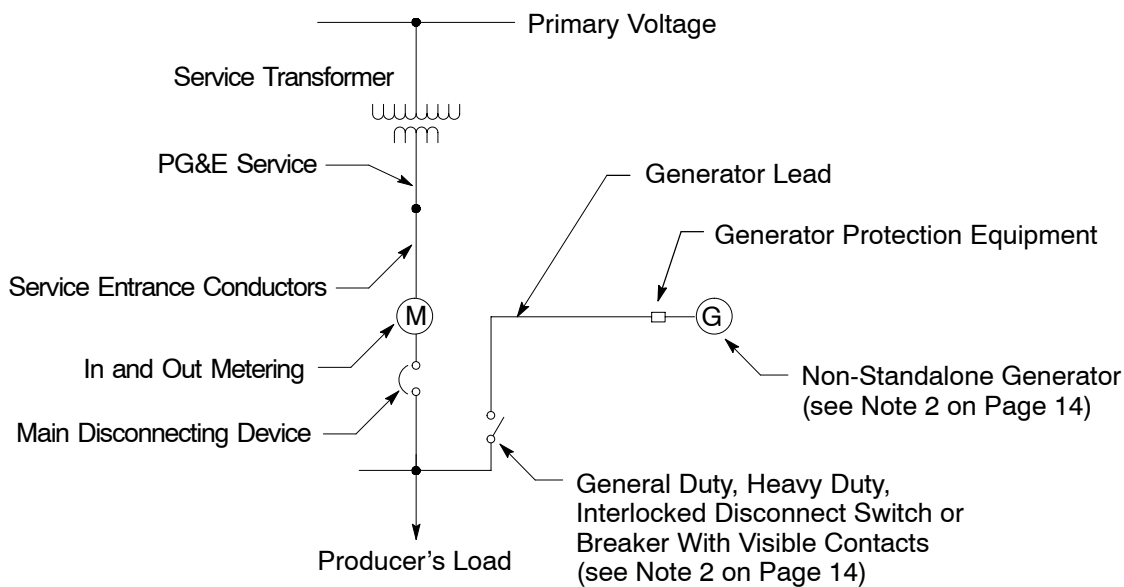

Figure 11
- B. Generator leads may be connected to the service conductors with split-bolt connectors (see Figure 11 on Page 17). The split-bolt connectors must be UL approved and must be suitable for Cu-to-Al connections.